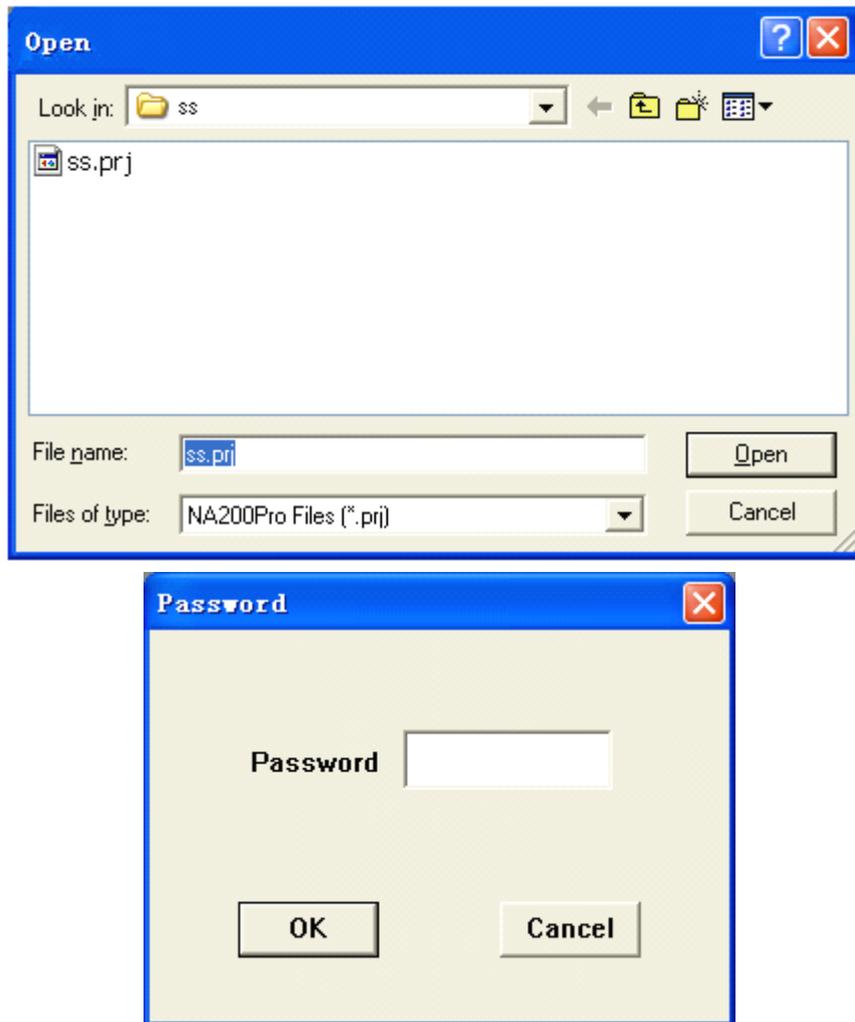

Fig.2.7 Open project
**【 Open 】** : Open an existed project file. Choose **Open**, the programming software will pop up the **Open** dialog box, the file type is “NA200Pro Files”, the extension name is “prj”. If the file password is set, the **Password** dialog box will pop up, as shown in Fig.2.7.